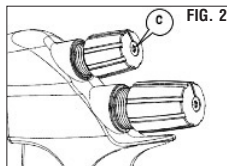

FIG. 2
WARNING: When you reinsert the knob (6) on the adjustment (B) and before to tighten the countersunk socket screw (C), make sure that it is pushed in until it completely covers the face of the hexagon knob of the adjustment (Fig.2).